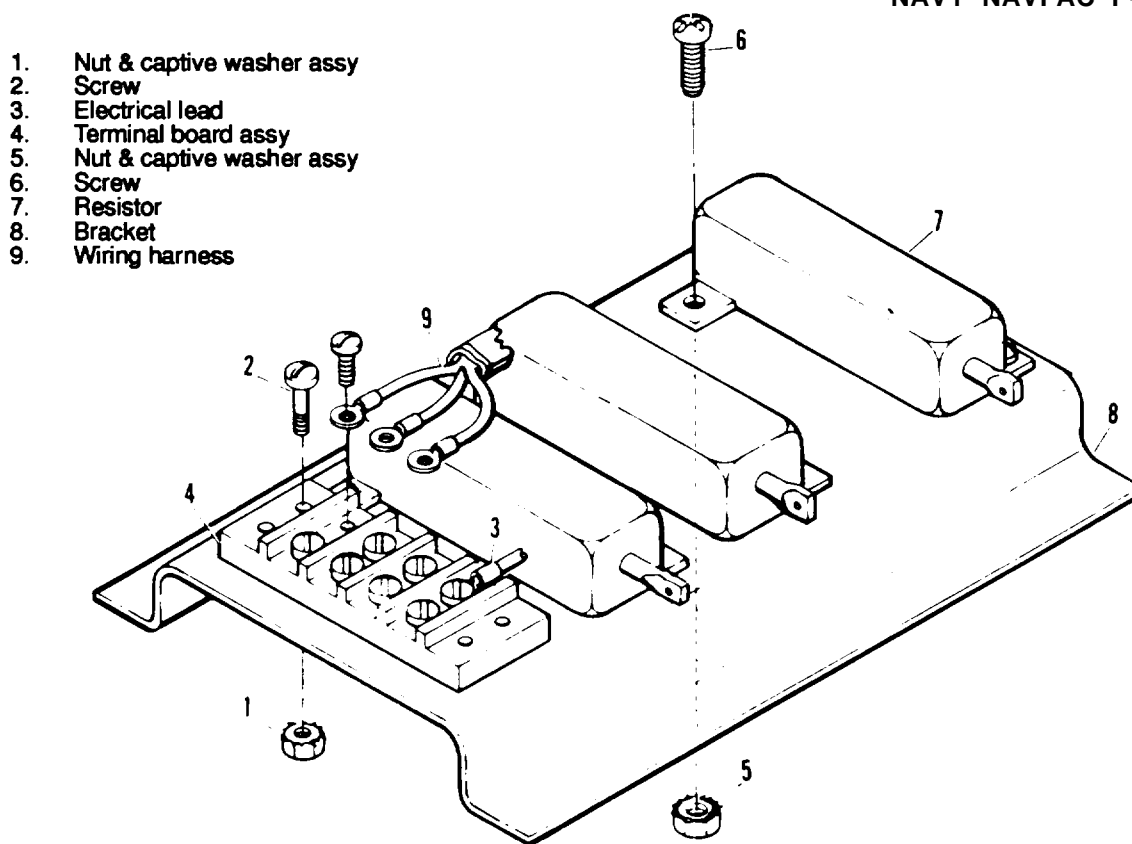

Figure 3-118. Tactical Relay Resistor Assembly, Exploded View
- (15) Replace defective components of tactical relay resistor assembly using figure 3-118 as a guide.